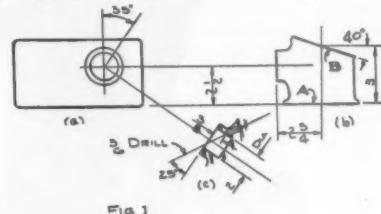
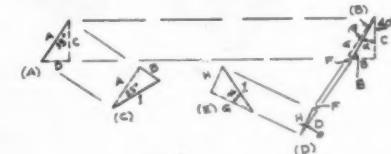

Fig. 1
Fig. 2
The method may best be explained by an example. Refer to Fig. 1, a simplified sketch of an adapter for an aircraft carburetor. The  $\frac{1}{4}$  hole is to be drilled. Although dimensions for locating the hole are carried from face "A," it is desirable to rest on face "B" for the drilling operation in order to use a simple jig on a standard drill press.
A small sketch is made with the centerline shown in the positions shown on the part print as in Fig. 2. Since it is desired to find the angle between the centerline and face "B" of Fig. 1, further projections are made to indicate that angle as in Fig. 2.
In Fig. 2, then, view (C) indicates the section view of Fig. 1 in which the centerline is shown normal. This line is of unit length for purposes of analysis. The final view (E) also shows this line normal, or, of unit length. The required angle ( $\phi$ ) of view (E) is the required angle.
Then, if it is desired to figure any of the lengths involved for checking or detailing purposes, this may readily be done by using only the known or figured angles in one step, to get lengths that correspond with the layout of Fig. 2. To get the actual lengths to put on the drawing it is necessary (usually) to calculate the length of the centerline between two "control" points of Fig. 1 (C), and correct any figured lengths by the ratio between this calculated centerline length and the unit figure taken in Fig. 2.
The layout for the tool would start with (E) of Fig. 2, with the centerline vertical and line (H) horizontal, and ( $\phi$ ) being the angle between the drilling centerline and a perpendicular to the face of the jig contacting the part. The complement of ( $\phi$ ) would then be the angle between the centerline and the base of the jig.